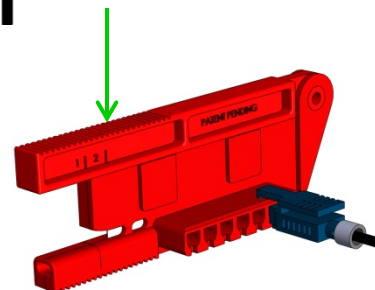

Fig 10
15. Cleave off the excess fiber using the tool . "Razor Finishing" (Figure 10).